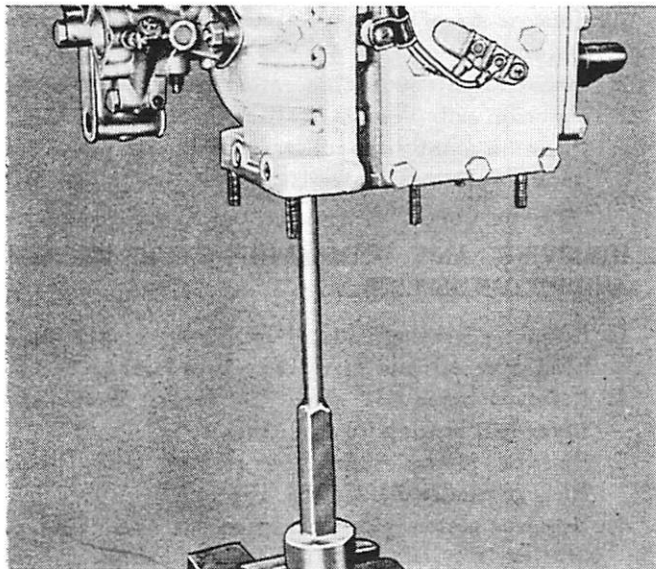

Figure 1. Powerhead on Stand in Vise
7. Remove powerhead and place in Powerhead Stand (91-24282). (Figure 1)